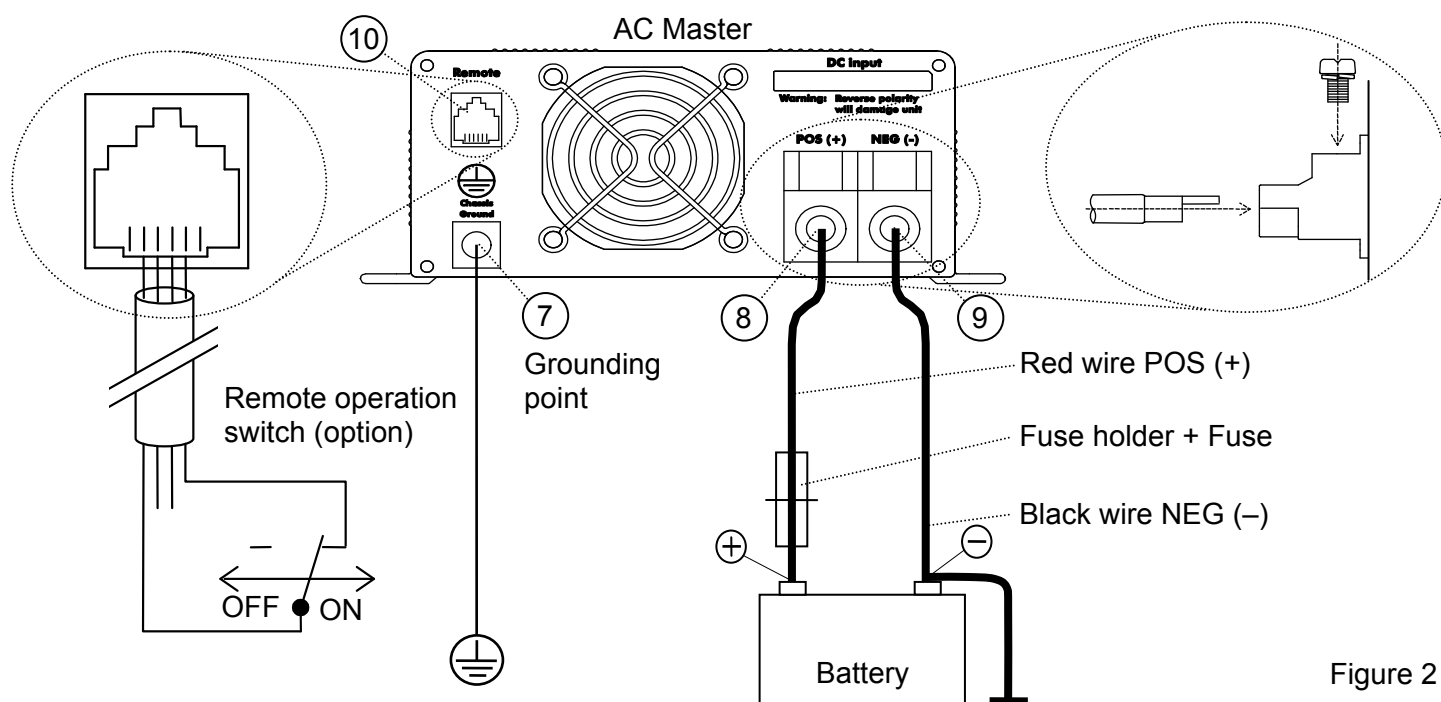

Figure 2
- Connect DC wiring as shown in figure 2: the black terminal (9) NEG (–) to the negative (–) pole of the power source / battery, the red terminal (8) POS (+) to the positive (+) pole of the power source/ battery. Integrate a DC fuse holder in the positive wiring, but do not place the fuse yet. Assemble the DC wiring exactly as indicated. Do not place anything between the ring terminal and the terminal surface. Make sure that all DC connections are tight. Recommended torque: 11.7-13 Nm / 104-115 InLbs
- Chassis ground: Use a cable AWG8 / 6 mm2 to connect the CHASSIS GROUND terminal (7) to the central ground.
- NOTE: the neutral connector N of the AC output (ref. 2) is NOT connected to the CHASSIS GROUND terminal (ref. 7).
- Remote operation switch (option). If you want to operate the AC Master on a remote location, you can install a switch as indicated in figure 2. When the contact is closed, the AC Master is switched on.